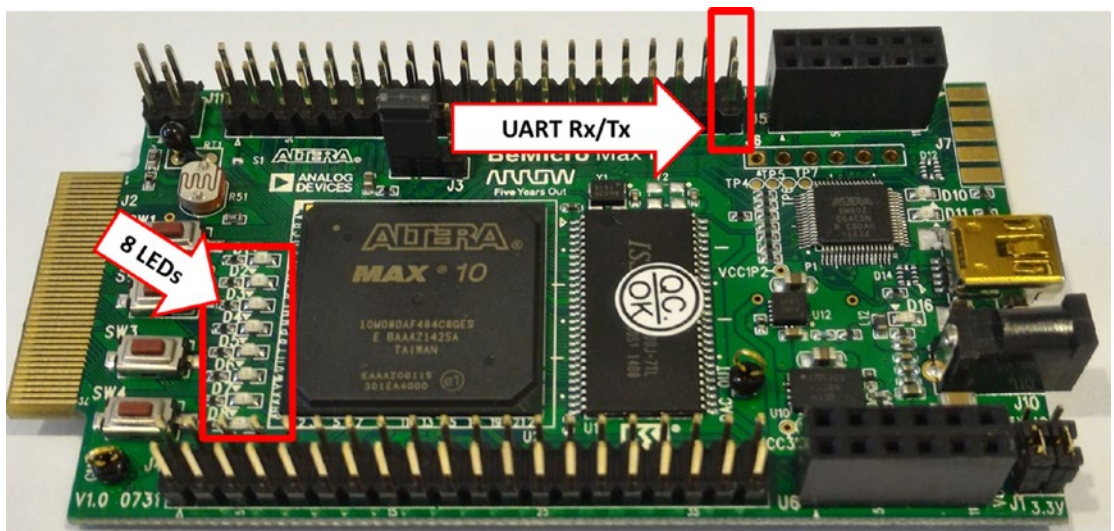

Figure 13-1. BeMicro MAX10 board—UART interface pin and LEDs
You would like to build a system with communication (bus) capability. The communication can be between modules, integrated circuit (IC), or even a PC. What kind of bus or communication system do you think an IC can use to send data to a PC? The answer is UART (universal asynchronous receiver/transmitter)! UART is one of the most common and timeless interfaces because it's easy to design the hardware and the software for this communication interface. Figure 13-1 shows the BeMicro MAX10 board with user-defined UART interfaces—two pins: one transmit (Tx) and one receive (Rx). We will show you how to connect it to your PC in the design example.